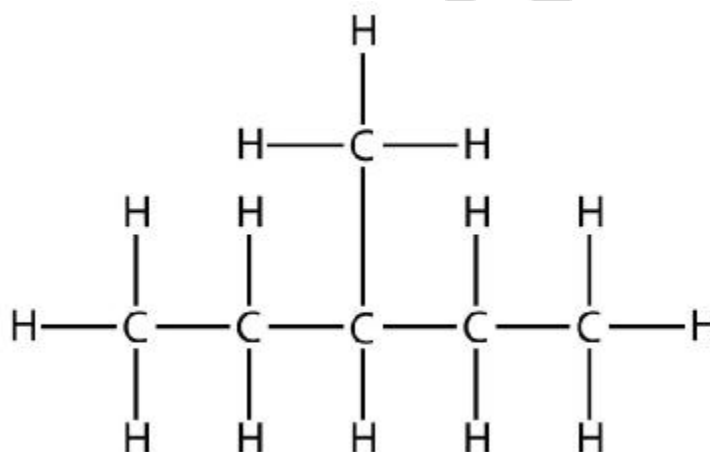

Figure 1.6. Structural formula of 3-methylpentane
3. The longest chain of the hydrocarbon must be numbered, and the numerical position of each substituent must be noticed. The main chain is numbered to give the substituent the lowest possible number. For example, in this alkane from figure 1.6 the longest chain is five C atoms long, so it is a pentane.